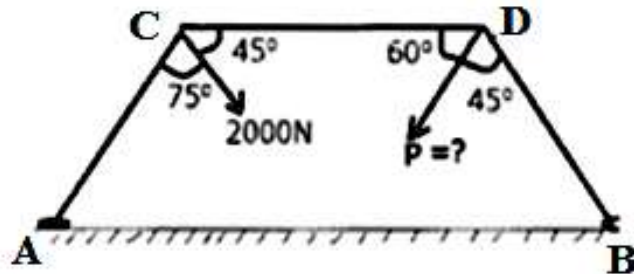

figure-1
2.a) Three bars, hinged at A and D and pinned at B and C as shown in figure-1 form a four-linked mechanism.